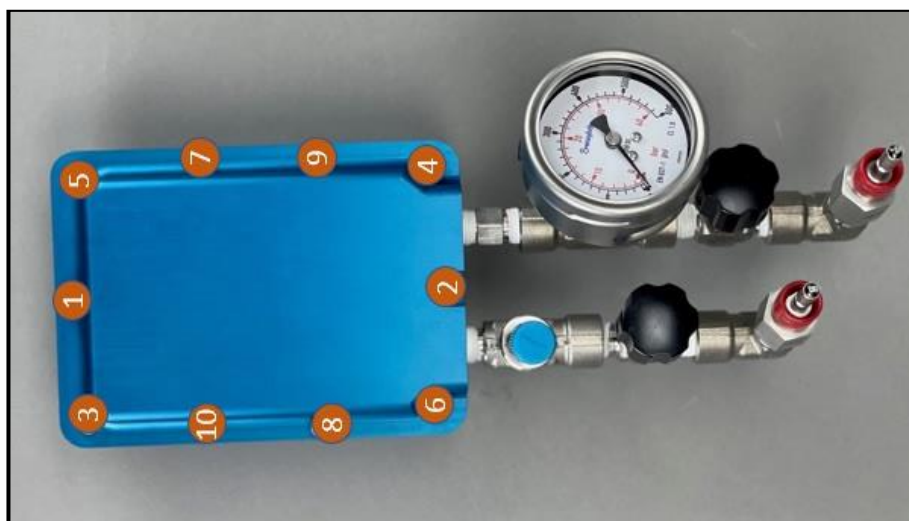

Figure 8. Suggested screw tightening order for reactor lid
3. Using a Hex wrench, tighten the socket head screws to secure the reactor lid to the reactor base. The order of tightening pattern shown in **Figure 8** is recommended. 40 inch-lbs of force are recommended.